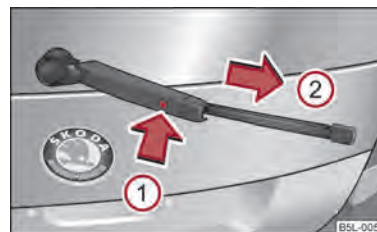

Fig. 39 Wiper blade for the rear window
- Fold windscreen wiper arm out from the windscreen and position the wiper blade at right angles to the wiper arm ⇒ fig. 39.
- With the other hand unlock the locking button ① and remove the wiper blade in the direction of arrow ②.